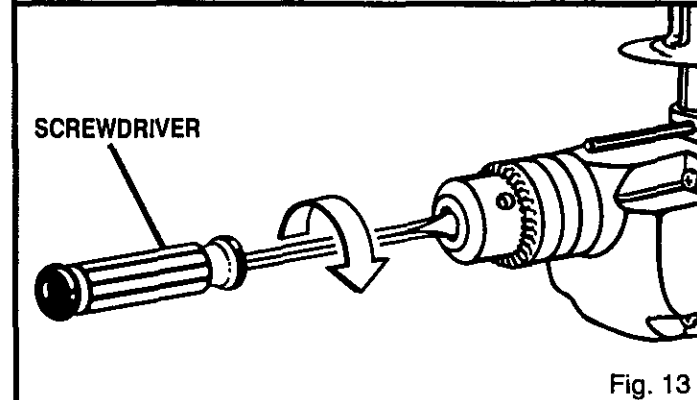

Fig. 13
- Open the chuck jaws and remove the chuck screw by turning clockwise with a flatblade screwdriver. See figure 13. **NOTE:** Chuck screw has left hand threads.